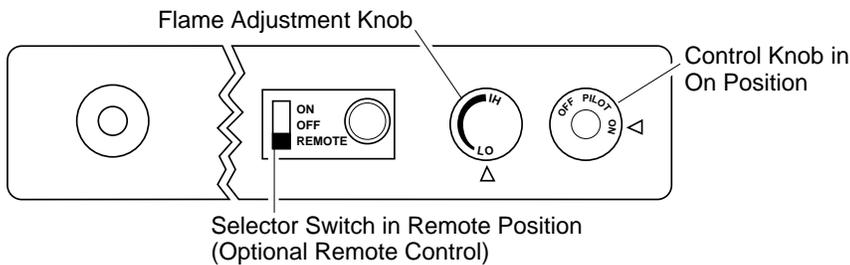

Figure 22 - Setting the Selector Switch, Control Knob, and Flame Adjustment Knob for Remote Operation
- 2b. Press the AUTO/ON/OFF button on the hand-held remote control (see Figure 22, page 17). The lights to the left of the button will show AUTO, ON, or OFF.